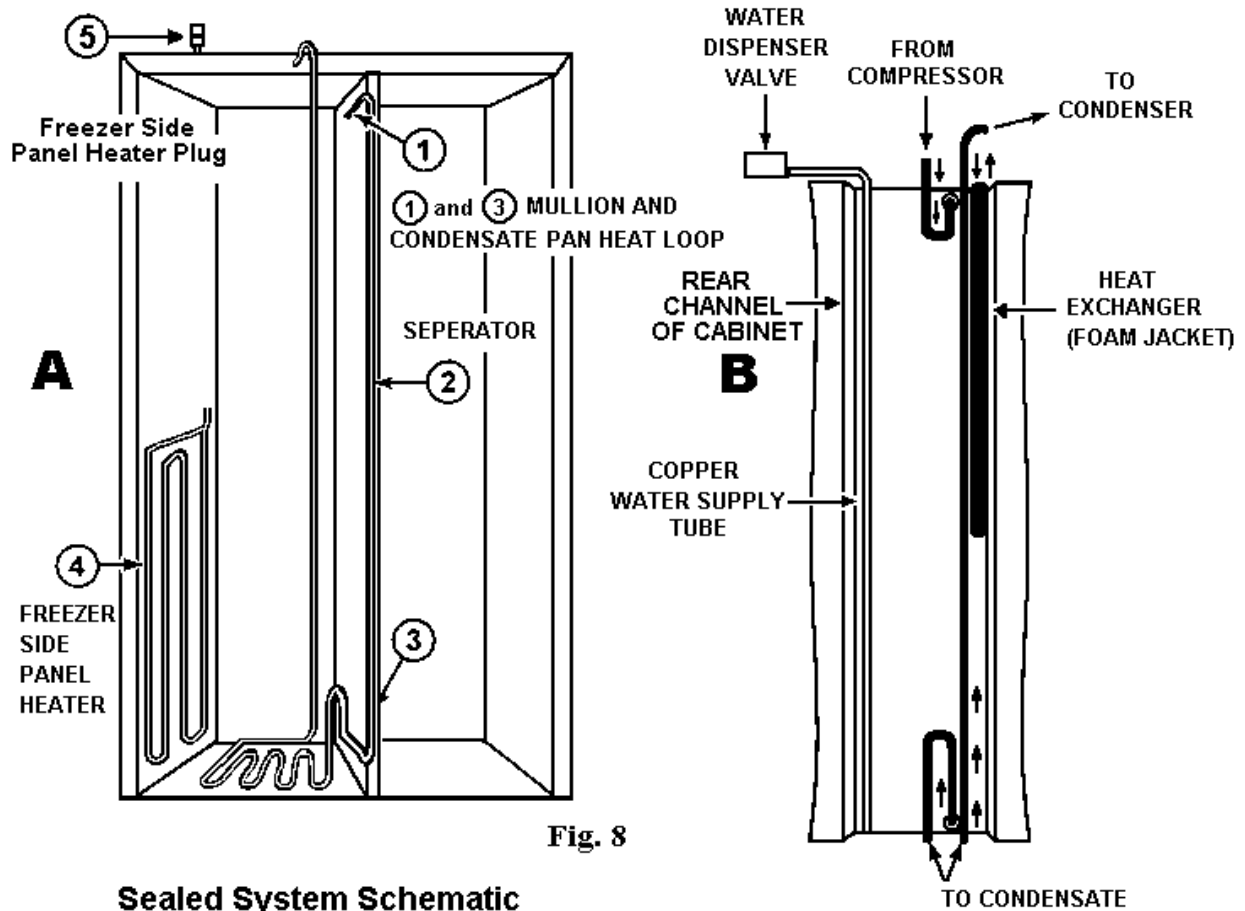

Fig. 8
The mullion and condensate pan heat loop (Fig.8 A) enters the separator wall through a grommet in the back of the cabinet (Fig.8 B) where it travels inside the separator wall to the front. It then bends 90* (1) and travels along the entire length of the separator (2) to the bottom of the cabinet. Finally, the loop bends 90* (3) and travels along the bottom of the separator and exits through a grommet at the back of the cabinet.